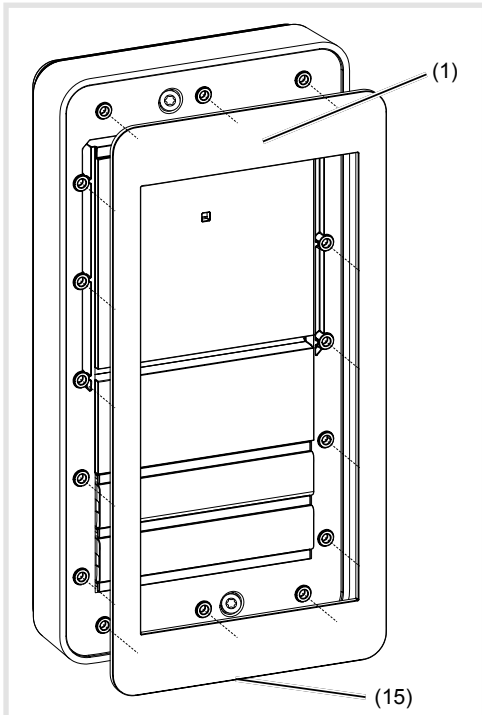

Figure 13: Clipping the design front plate on to the base.
- Clip the design front plate (1) on to the door station making sure that the unclipping slot (15) is pointing downwards (figure 13).